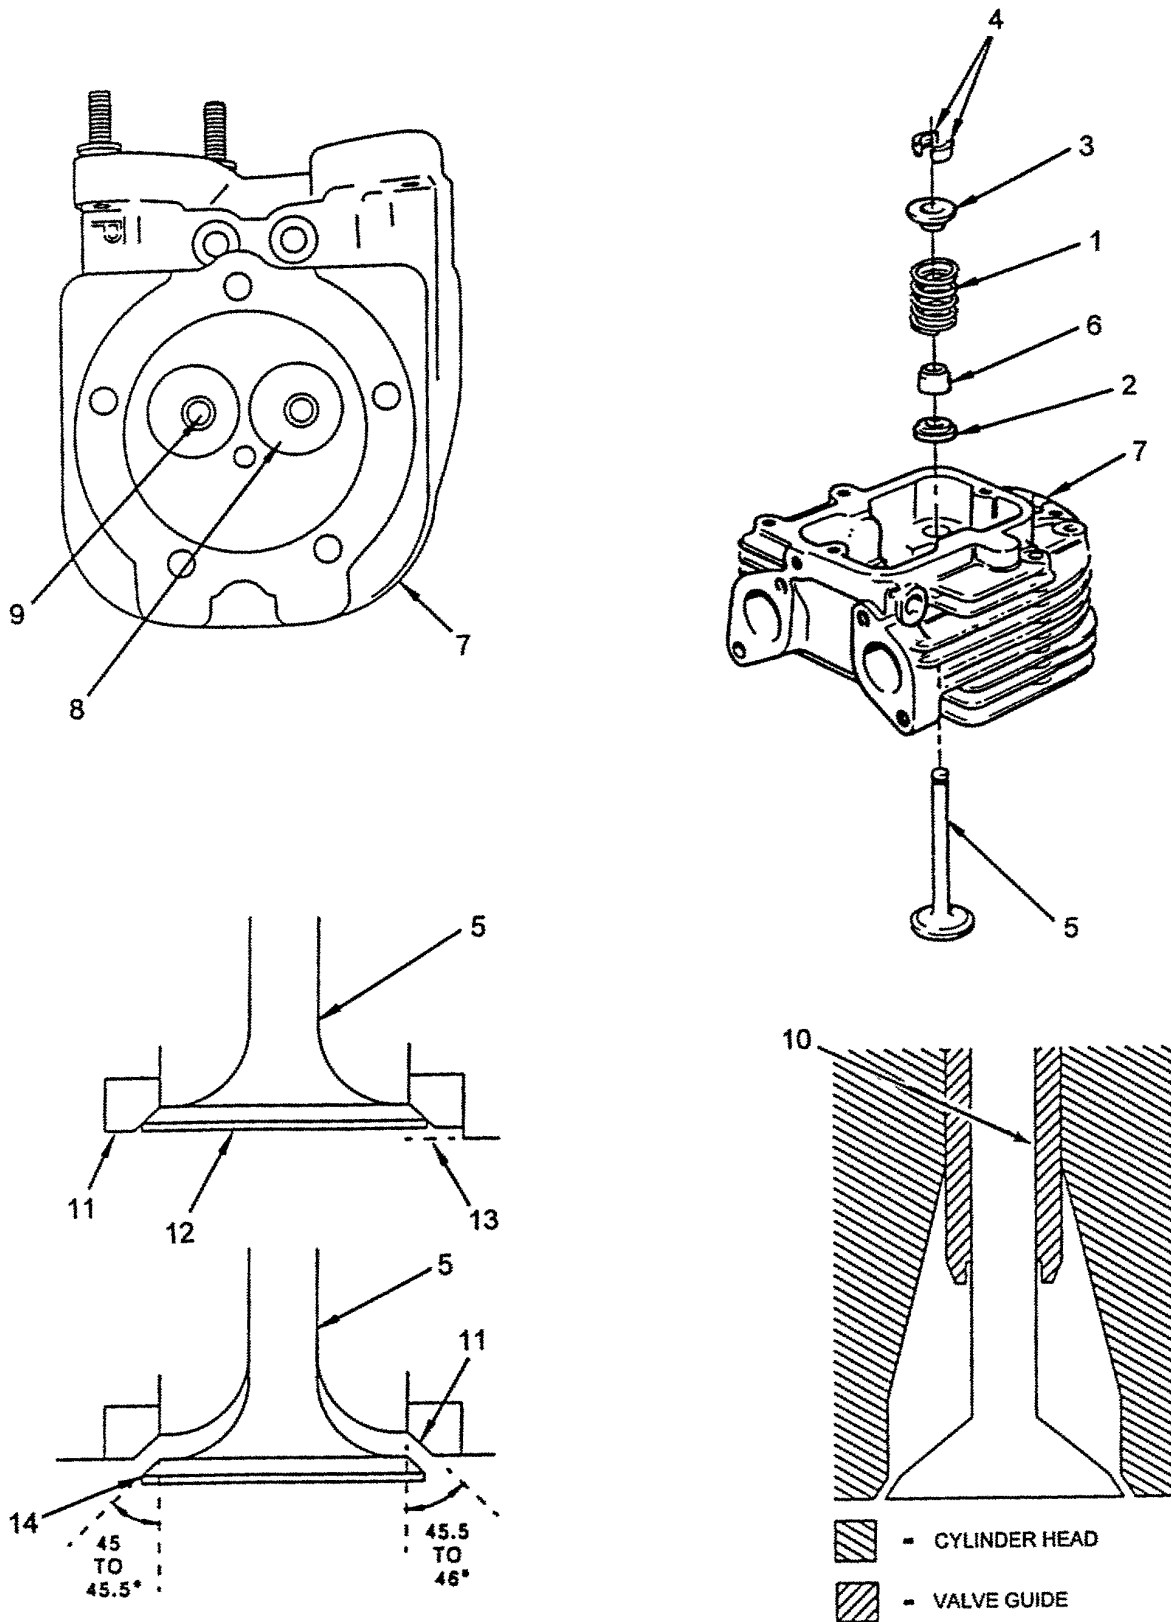

Figure 6-1. Cylinder Head Repair
a. Disassembly. (Refer to Figure 6-1).